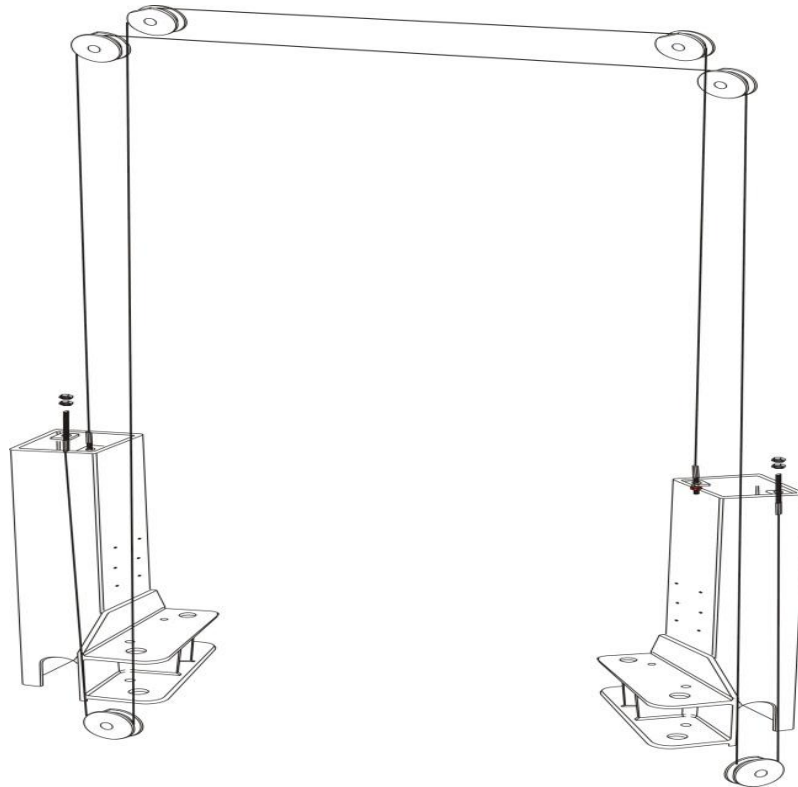

Figure 7
- Raise the two carriages to the safety locking position (make sure that the safety locks on each column are fully engaged before attempting to install cables), and the two carriages are in equal position from the floor (same height). Install the two steel cables as shown in Fig. 7.